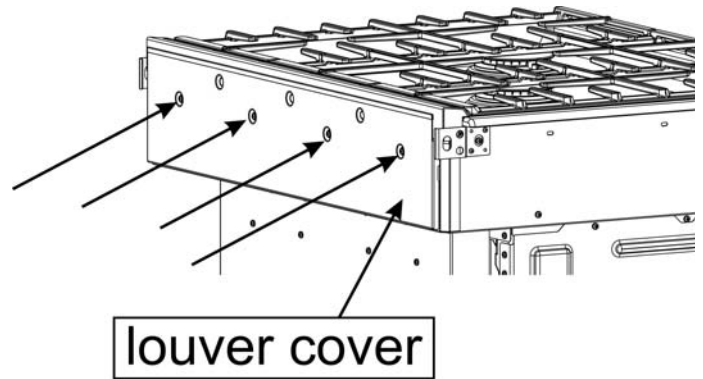

Figure 1: Rear louver cover screw locations
Procedure for a Dual Fuel Slide-In-Range with louver cover (see Figure 1)
2. Slide the range out enough to access the rear louver cover mounting screws. See Figure 1: Rear louver cover screw locations.
3. If your range does not have a louver cover (see Figure 1), go to the procedure starting on page 5.
4. Remove the four screws holding the rear louver cover (see Figure 1). Save these screws to reattach the louver cover.
- Place the rear louver cover into its slots and secure with four screws (see Figures 1 and 2).